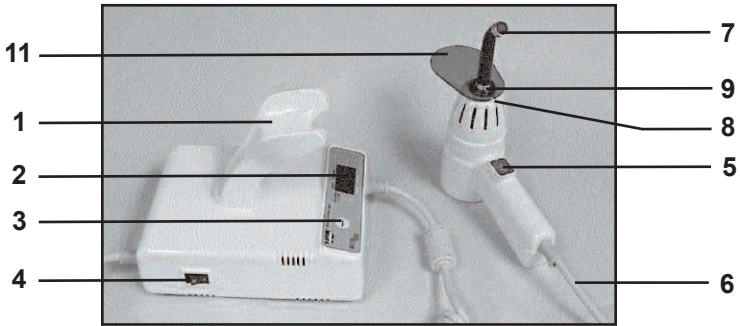

FIG. 1B, SIDE VIEW
- C. By pressing and releasing the trigger switch, the unit will emit a blue light of the selected intensity range (H=high, L=low) for the displayed number of seconds or begin the continuous orthodontic sequence. At any time during the cycle, the light can be turned off manually by pressing and releasing the trigger switch on the handpiece. (See Fig. 1B, page 2.)